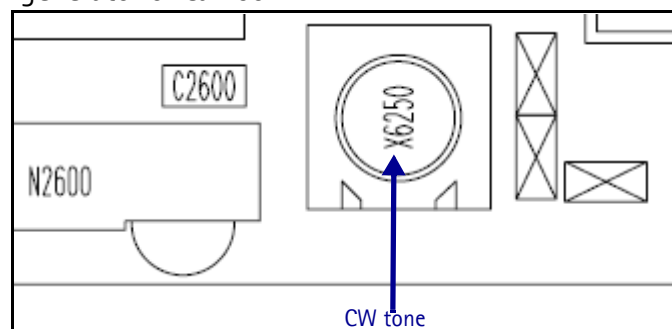

Figure 50: GPS connector (X6250)
3. Inject a -50dBm tone at 1575.52MHz at the GPS connector (X6250) with a signal generator or a call box. (See Figure 50.)